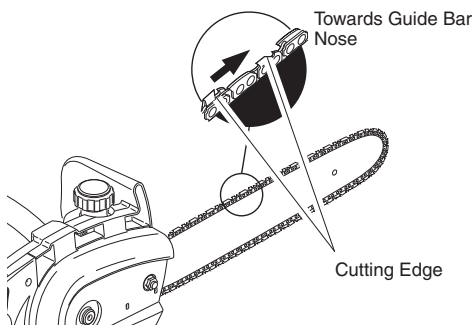

Figure 6 - Saw Chain Direction
6. Place chain around drive sprocket, along top groove of guide bar, and around guide bar nose. **Note:** Make sure cutting edges of chain are facing in right direction. Position chain so cutting edges on top of guide bar face guide bar nose (see Figure 6 and indicator on side cover of saw).